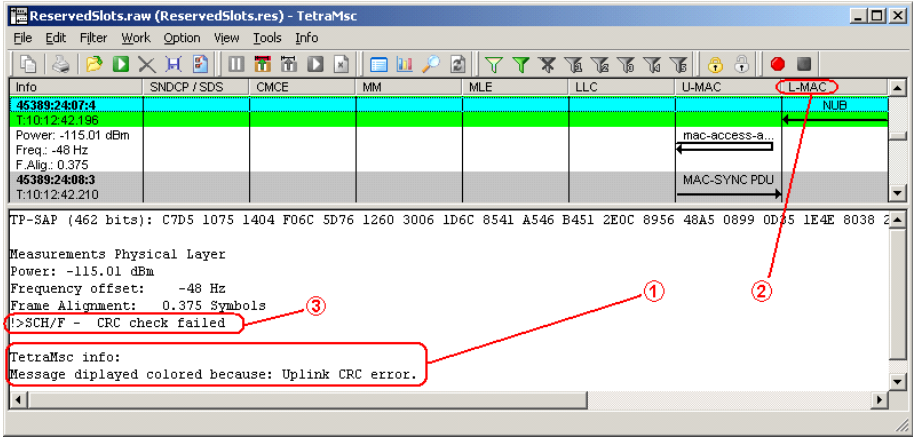

Figure 139 Example of a colored message
In the example in Figure 139, a couple of messages are displayed with colors because an "Uplink CRC error" occurred (1). These messages belong to the Lower Medium Access Control (L-MAC) (2). TetraMsc marks the beginning of the line where the error ("Uplink CRC error") occurs with "! >" (3).